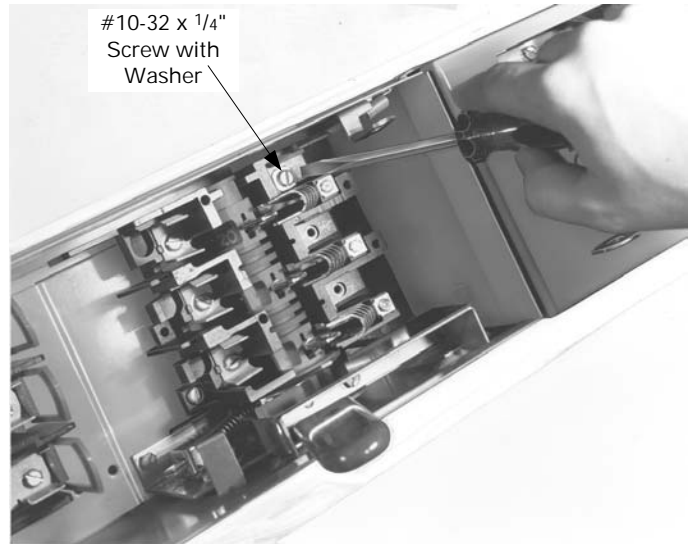

Figure 6. Making the connections.
6. **Make the connections.** Install #10-32 x 1/4" screws into the mechanism shroud mounting holes, as shown in Figure 6. Install #10-32 screws with washers into the straps inside the switch base and tighten to 27–32 in-lb. Invert the switch and replace the hex nuts on the studs. Tighten the nuts to 27–32 in-lb.